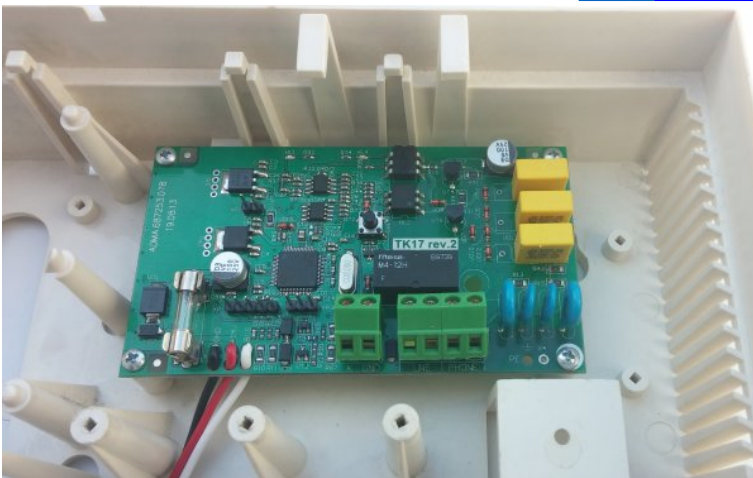

Figure 34. “TK-17” communicator installation
1. Place the communicator into the housing (Figure 34) and connect with the Control Panel board according to the diagram in “TK-17 phone communicator. Installation Guide” available at [www.ortus.io](http://www.ortus.io);